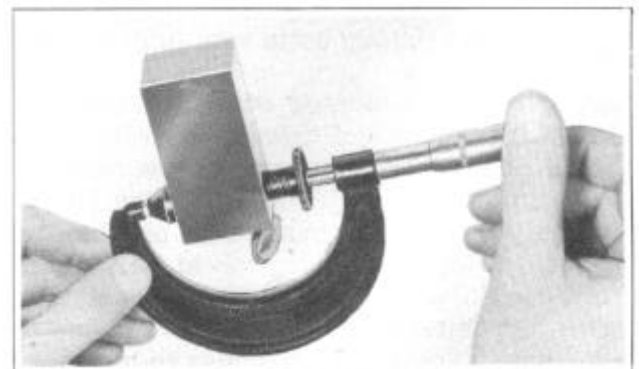

FIGURE 50
17. Back off screw in clamp holding gauge block against pinion, remove gauge block and with a 2 to 3 inch micrometer, measure distance from end of anvil to top of plunger head as shown in Figure 50. This measurement represents the distance from the rear face of the drive pinion to the center line of the rear axle and should be 2.625" for a correctly adjusted, 14 tooth, 3.07 to 1 ratio drive pinion having a zero "0" marking. With a pinion marked +2 the micrometer reading should be 2.623" and for a pinion marked -3, the reading should be 2.628".